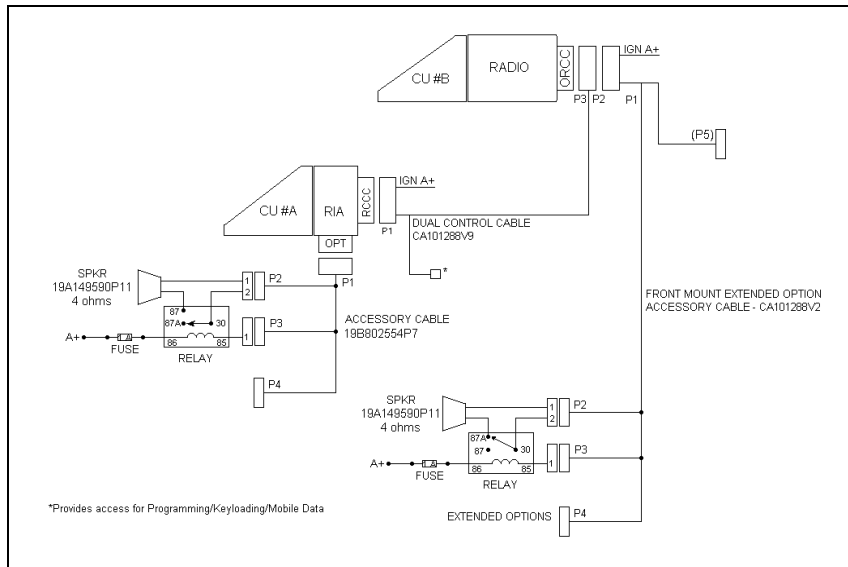

Figure 10-4: M7100^{IP} Dual Control Unit Front Mount/Remote Mount Installation Configuration
1. Referring to Figure 10-4, run the Dual Control Cable (19B802554P9) between locations for the Radio Unit and Auxiliary Control Unit. Be sure to locate the P2/P3 connector assembly at the Radio Unit.
- B. Hardwire each speaker directly (without relays) as shown in Figure 10-4.
9. Radio Unit Speaker: Connect the lead nearest the speaker to Pin 87A of the relay. Connect the lead nearest the connector to Pin 30 of the relay. Connect the connector to the Accessory Cable P2 (refer to Figure 10-4).
10. Auxiliary Control Unit Speaker: Connect the lead nearest the speaker to Pin 87 of the relay. Connect the lead nearest the connector to Pin 30 of the relay. Connect the connector to the Accessory Cable P2 (refer to Figure 10-4).
11. For each relay: Connect a #18 AWG black wire between the relay, Pin 85 and Accessory Cable P3-1 (labeled “OUT2” on the schematic diagrams in the service manual). Use a 1/4” tab receptacle on the relay side and mating Molex connector and pins on the accessory cable side. Connect the mating Molex connector to the Accessory Cable P3 when finished (refer to Figure 10-4).
12. For each relay: Connect a #18 AWG red wire to the relay, Pin 86. Cut to length, and connect to the 1A fuse holder (supplied). Use crimp on connectors supplied. Connect the other side of the 1 amp fuse holder to A+ battery source or vehicle A+ fuse block. Use #18 AWG red wire and ring lug supplied, if needed (see Figure 10-4).